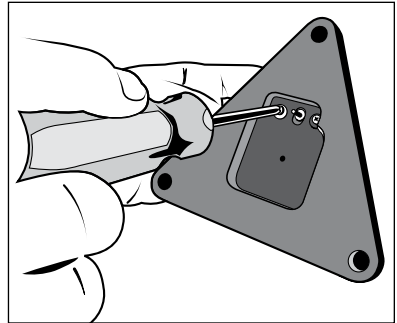

Figure 5
- 1) Take the rotor top and push the motor shaft through the top of the rotor top (the side without an indentation) in the middle slot. Holding the motor in place, flip over the rotor top. Place a washer over the end of each screw and insert the screws into the holes on either side of the motor shaft extruding from the rotor top (Figure 5). Tighten the screws slightly – do not tighten them completely.